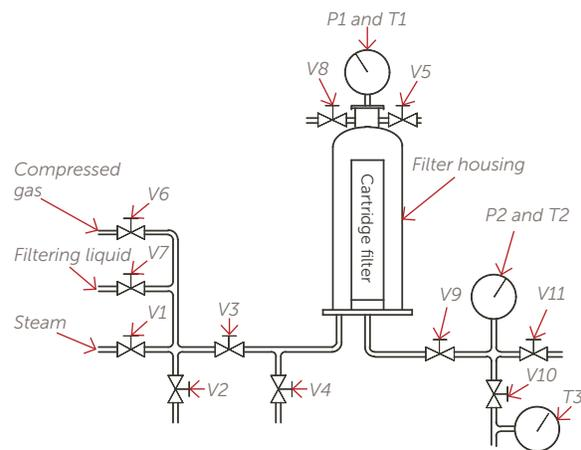

Figure 3. Steam-in-place system for liquid cartridge filters.
1. A common SIP system for liquid cartridge filters is shown in Figure 3.